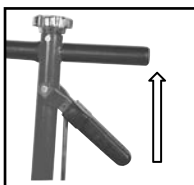
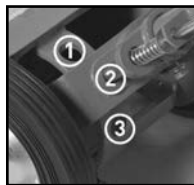
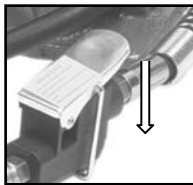

Fig. 12
Fig. 13
Fig. 14
- Position the handle assembly (2) in desired angle. This is done by pulling the lock lever (3) [fig.12] and raising or lowering the handle to one of the three pre-set position (fig.13). Release the lock lever (3) to lock the handle in the desired position.
- Turn the release knob (1) completely clockwise to its closed position. Then connect to the air supplies air hose (not included) to the air inlet (13).
- Depress the lever on the air valve assembly (12) until the Saddle (9,10 or 11) of the Air/Hydraulic Truck Jack has nearly reached the vehicle lifting point. Position the Jack at 90° to the vehicle's lifting point to ensure the Jack's Saddle and vehicle lifting point are in alignment. If not, remove and then reposition the Air/Hydraulic Truck Jack before lifting.
- To lift the vehicle, continue to depress the lever on the air valve assembly (12) [fig 14].